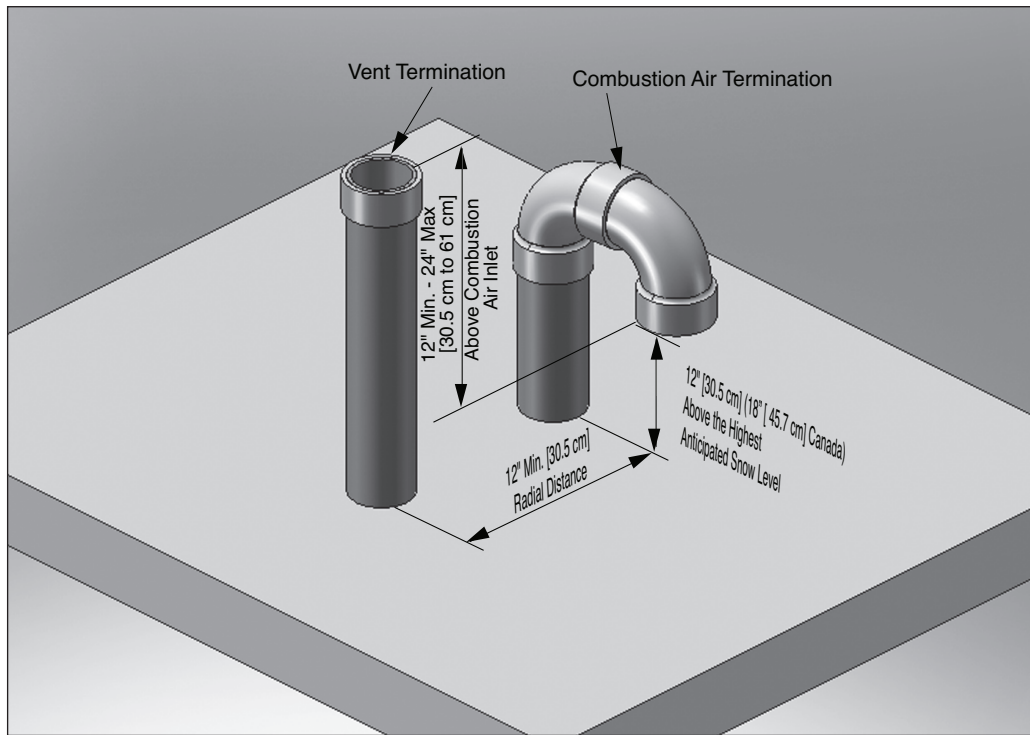

Fig. 1 - Direct Vent - Vertical Termination of Vent and Combustion Air Piping.
2. The combustion air piping must terminate in an upside down “U” shape fashion using two 90° elbows, as shown in *Fig. 1 on page 14*. The termination must be located 12” [30.5 cm] (18” [45.7 cm] Canada) above the highest anticipated snow level.
3. The vent piping must terminate vertically with a coupling to accept the bird screen and must be located 12” to 24” [30.5 cm to 61 cm] above the combustion air inlet as shown in *Fig. 1 on page 14*.
4. The vent and combustion air terminations must be located at a radial distance of 12” to 24” [30.5 cm to 61 cm] from centerline of vent termination to centerline of air termination as shown in *Fig. 1 on page 14*.
3. Locate the vent and combustion air pipe penetrations to provide clearances as described in **Fig. 1 on page 14**.
2. The combustion air piping must terminate in an upside down "U" shape fashion using two 90° elbows as shown in *Fig. 1* on page 14.
3. The vent piping must terminate vertically with a coupling as shown in *Fig. 1* on page 14.
Do not extend the vent pipe above the roof beyond the dimensions shown in *Fig. 1* on page 14. Extended exposure of the vent pipe could cause condensate to freeze and block the vent pipe, resulting in substantial property damage, serious injury, or death